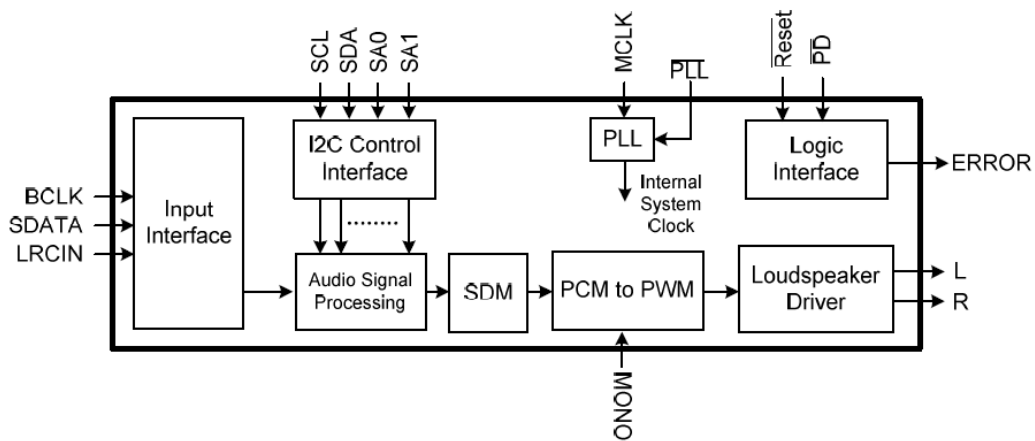

Figure 5 Functional Block Diagram
- Low Noise Figure: 5 dB, typical